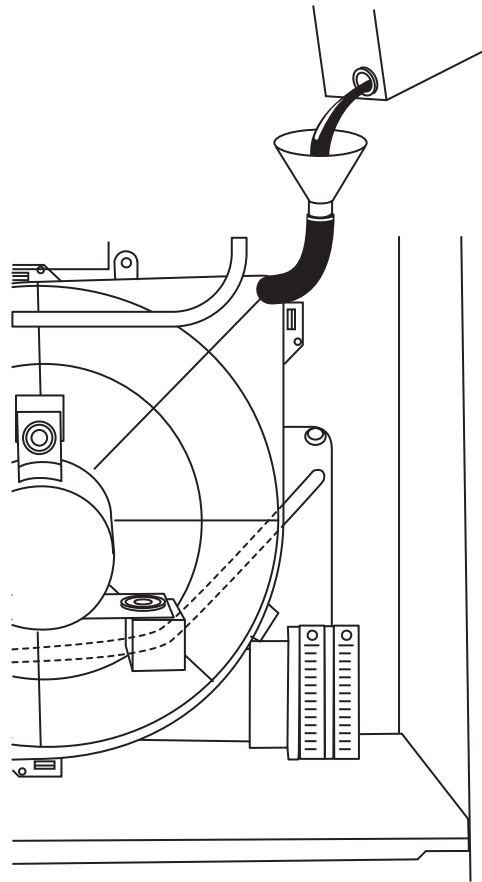

Fig. 19 - Antifreeze into Funnel / Tube
- Remove upper inducer housing drain connection cap. See Fig. 19.